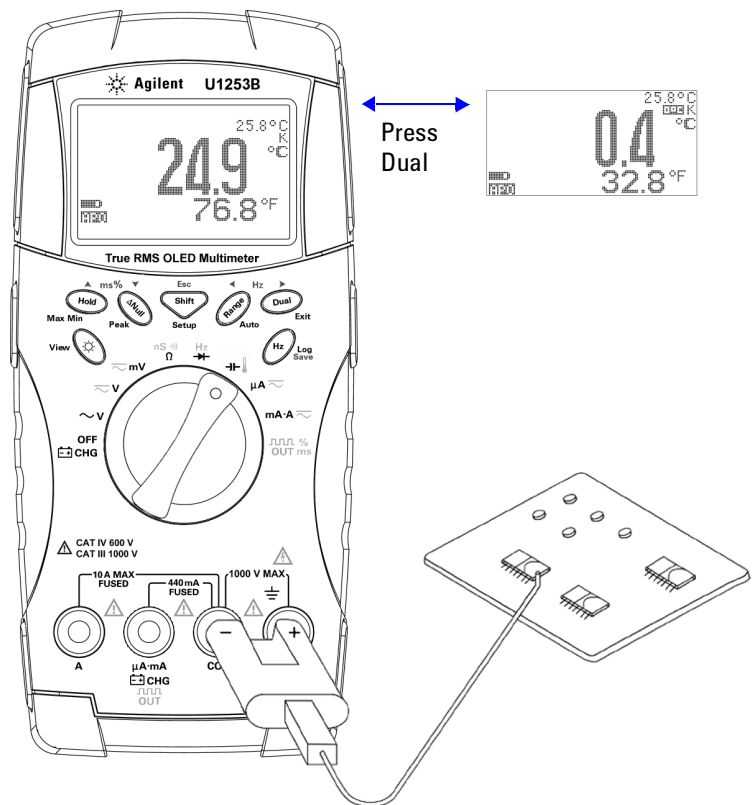

Figure 2-14 Surface temperature measurement
- 3 Plug the thermocouple adapter (with the thermocouple probe connected to it) into input terminals **TEMP (red)** and **COM (black)** (as shown in Figure 2-14 on page 53)